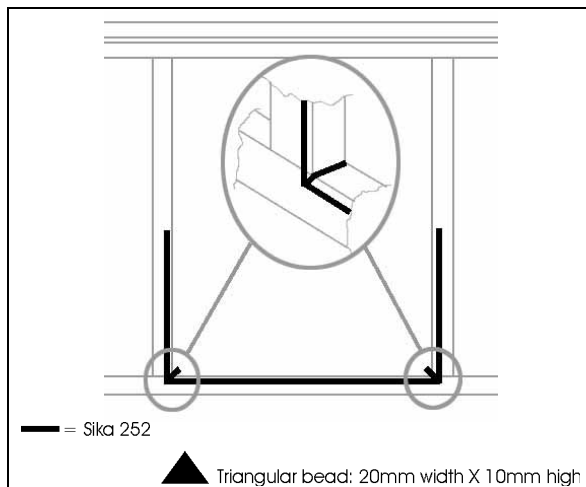

FIGURE 77 : SLIDING WINDOW - SIKa 252 APPLICATION
4. Apply Sika 252 as per FIGURE 77 (triangular bead: 20mm width X 10mm high [13/16"X 3/8"]).